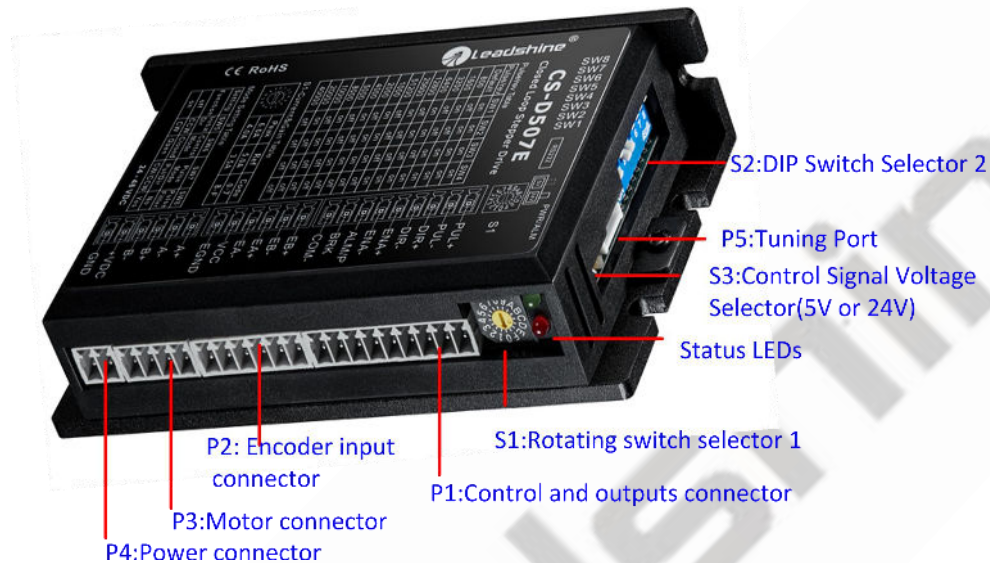

Figure 2: CS-D507E connectors
A CS-D507E closed loop stepper drive has 5 connection blocks from P1 to P5 (see figure 2).
The P1 connector in Figure 2 contains connections for control signals and 2 digital output.
(2) Control signal amplitude is 24 V as default. If it is 12 V, please set the S3 (Figure 2) selector switch to 5 V first, then connect 1K Ω resistor; If it is 5V, please set the S3 to 5V.
The P2 connector in Figure 2 is for encoder signal connection. Refer to the following table for details.
The P3 connector in Figure 2 is for motor connection. Refer to the following table for details.
The P4 connector in Figure 2 is for power supply connection. Refer to the following table for details.
The P5 connector in Figure 2 is a RS232 communication port for PC connection. Refer to the following pin definitions.